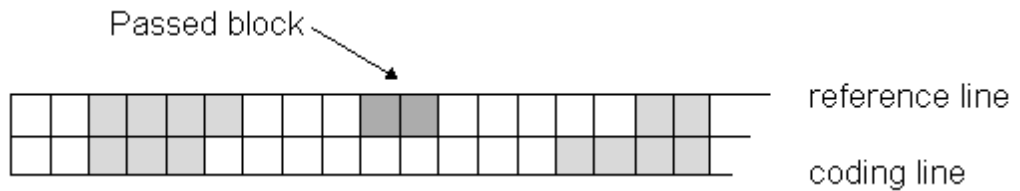

Figure 11: Passed block encoding.
- Pass mode (shown in Figure 11) - used when complete block of pixels in the reference line is absent from the following line - Each missing block is encoded as: 0001